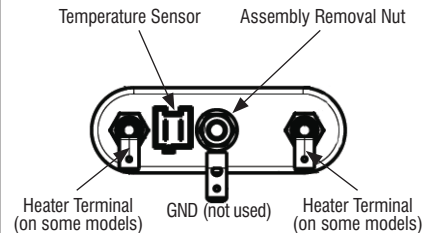

Figure 9 - Heater/Temperature Sensor Assembly
6. Disconnect the wire connectors from the heating element. See Figure 9.
- 6. Disconnect the temperature sensor connector from the heating element. See Figure 9, page 19.